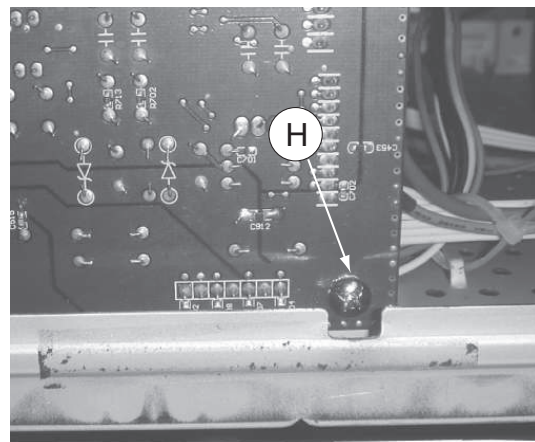

figure 10
- 3) Loosen 1 screw "H" on the board as shown in figure 10